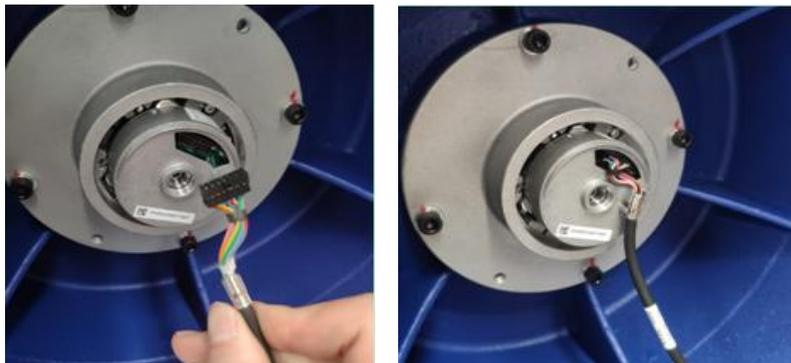

Figure 35
5. Install the encoder cable on the encoder. Take care to orient the plug and socket correctly. See Figure 35.